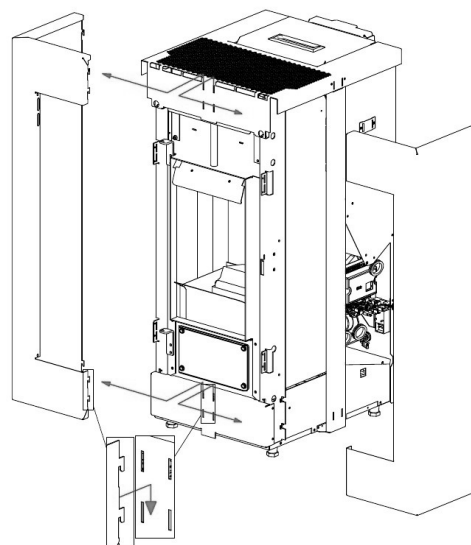

Fig. 55 - Desprender as laterais
- Desprender as laterais dianteiras (ver **Fig. 55**).